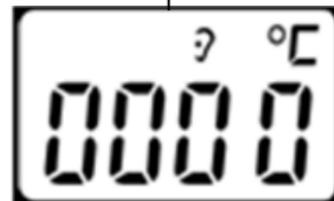

Figure 2.7B
2. When the screen shows as figure 2.7B and the temperature unit "°C" is blinking, then the user can start to take measurement.